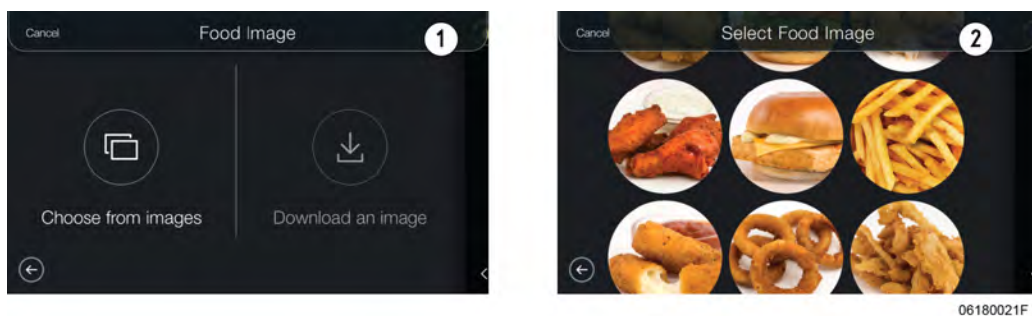

Figure 5-13
- Food Image** - This step allows you to select a food image for the food item. Choose from image lets you select an existing image from the control. Download an image lets you select an image you provide on a USB drive, see (1) in Figure 5-13 , page 46. To **Choose from image**, tap the icon above the text Choose from image, then Swipe up or down to locate your desired image from the available images, see (2) in Figure 5-13 , page 46. Tap the image to select it, then tap **OK**. To **Download an image**, tap the icon above the text Download an Image, then insert your USB drive, and then tap **OK** to confirm. Swipe up or down to locate your desired image from your USB drive. Tap the image to select it, and then tap **OK**. Tap **Next** to continue, or tap **Change the image** to go back and select another image.